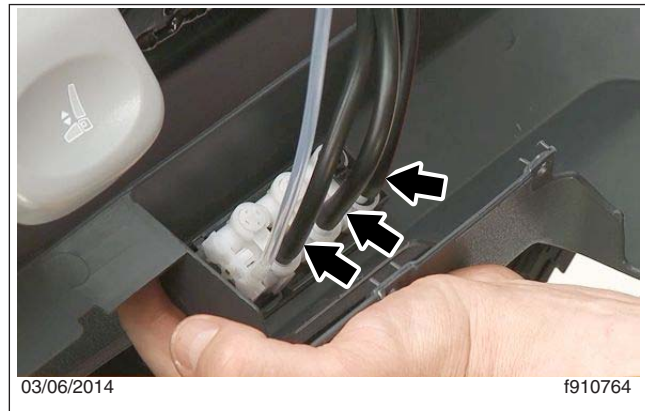

Fig. 6, Lumbar Control Air Lines
- 1.2 Connect the three black air lines to the back of the lumbar control; see Fig. 6.